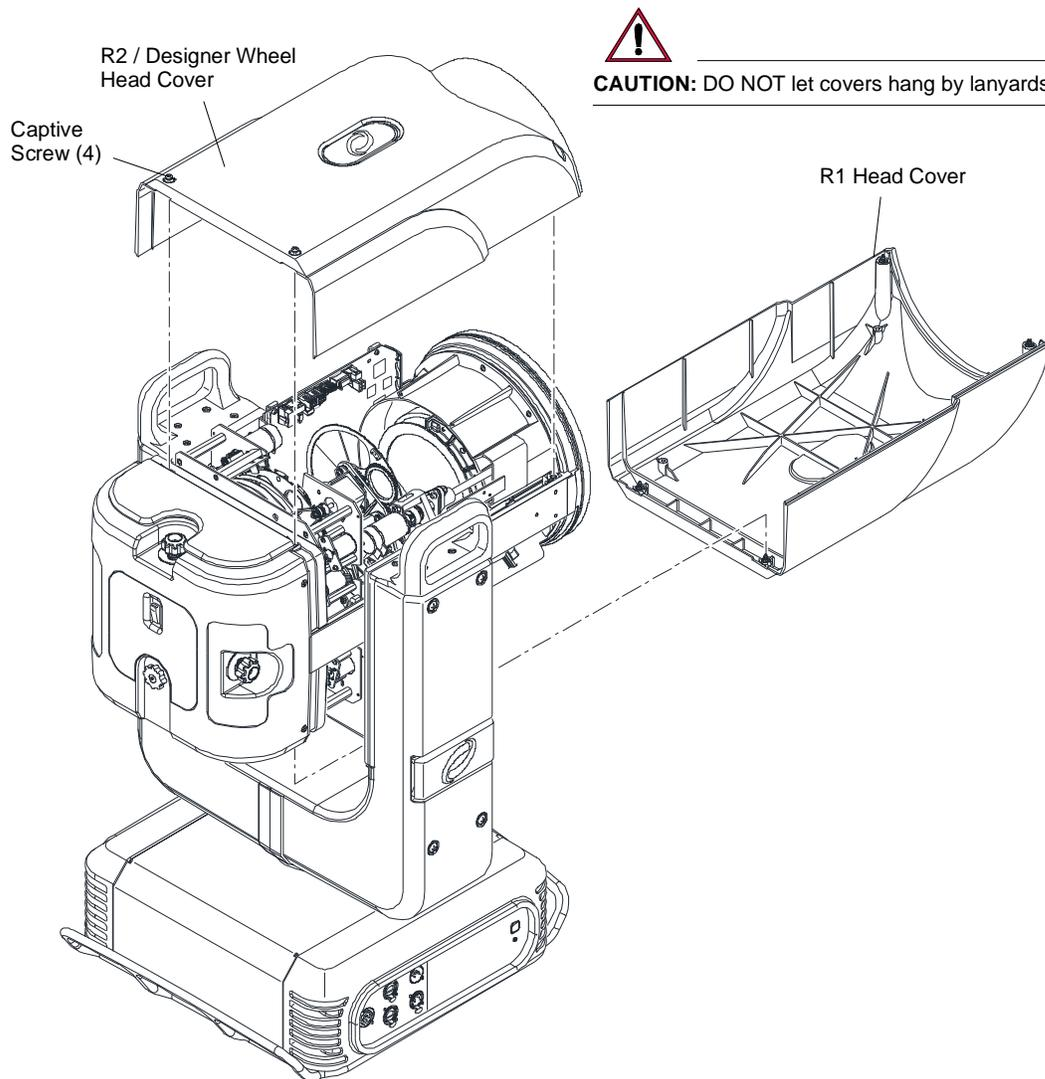

Figure 4-4: Removing Head Covers
- Step 1. At cover, loosen four captive screws (**Figure 4-4**). (Cover will still be secured by a safety lanyard.)